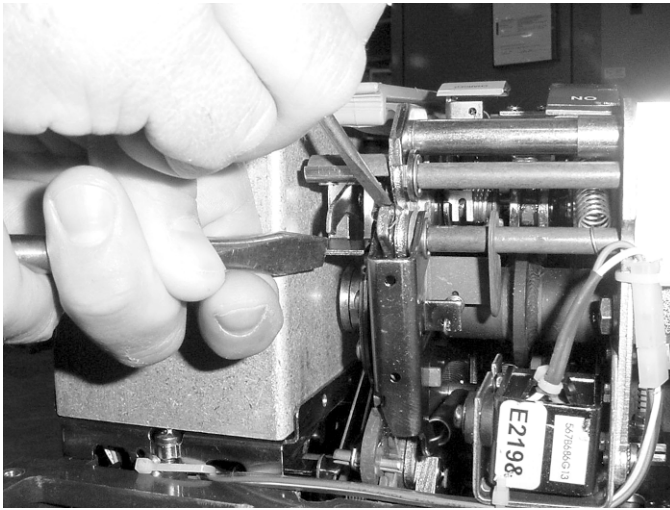

Figure 19: Rotating the close de-latch mechanism to release the charging pawl.
19. Press on the close de-latch lever with a screwdriver, rotating it clockwise as seen from the handle side of the breaker, as shown in Figure 19. Then, with another screwdriver, rotate the close de-latch mechanism to release the charging pawl.